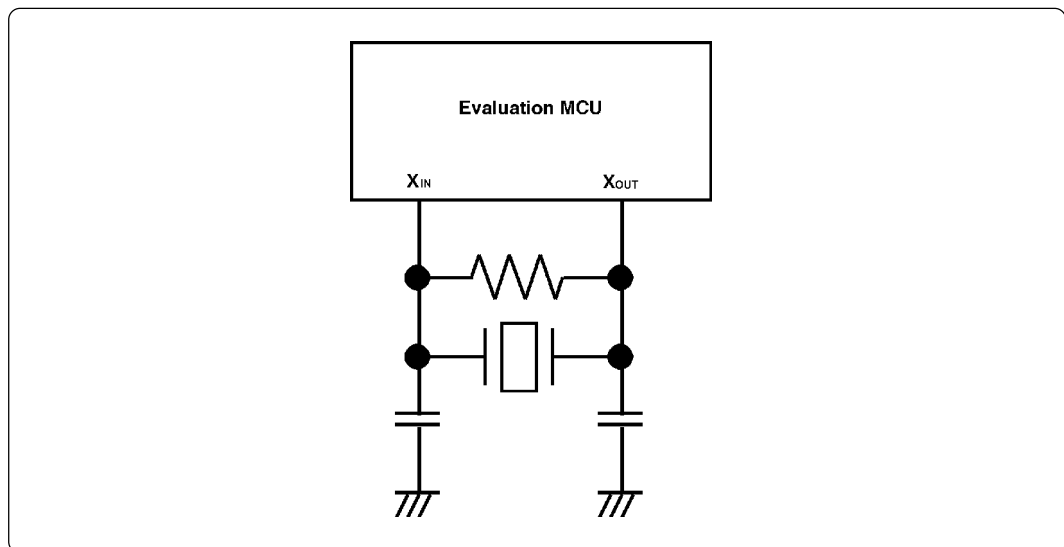

Figure 3.4 Circuit in which oscillation does not occur (same for  $X_{CIN}$ - $X_{COUT}$ )
- Make note of the fact that in the oscillator circuit shown in Figure 3.4 where a resonator is connected between the  $X_{IN}$  and  $X_{OUT}$  pins, oscillation does not occur because a flexible cable, pitch converter board and other devices are used between the evaluation MCU and the target system. It is same for sub-clock oscillator circuits ( $X_{CIN}$  and  $X_{COUT}$ ).